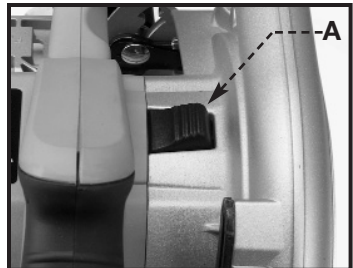
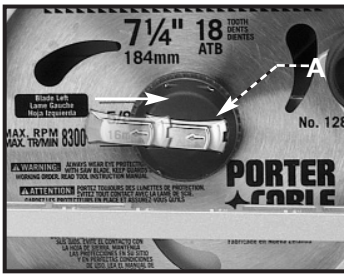

Fig. 1
Fig. 2
1. Push in the arbor lock button (A) Fig. 1 and rotate the blade by hand until the lock engages the blade arbor.
2. While pressing the arbor lock button, extend the lever on the Quik-Change blade clamp (A) Fig. 2 and turn it counter-clockwise.
4. Replace the Quik-Change blade clamp (A) Fig. 2 finger tight by turning it clockwise. Push in the arbor lock button (A) Fig.1, extend the lever on the Quik-Change blade clamp (A) Fig. 2, and hand-tighten the assembly securely. Release the arbor lock.